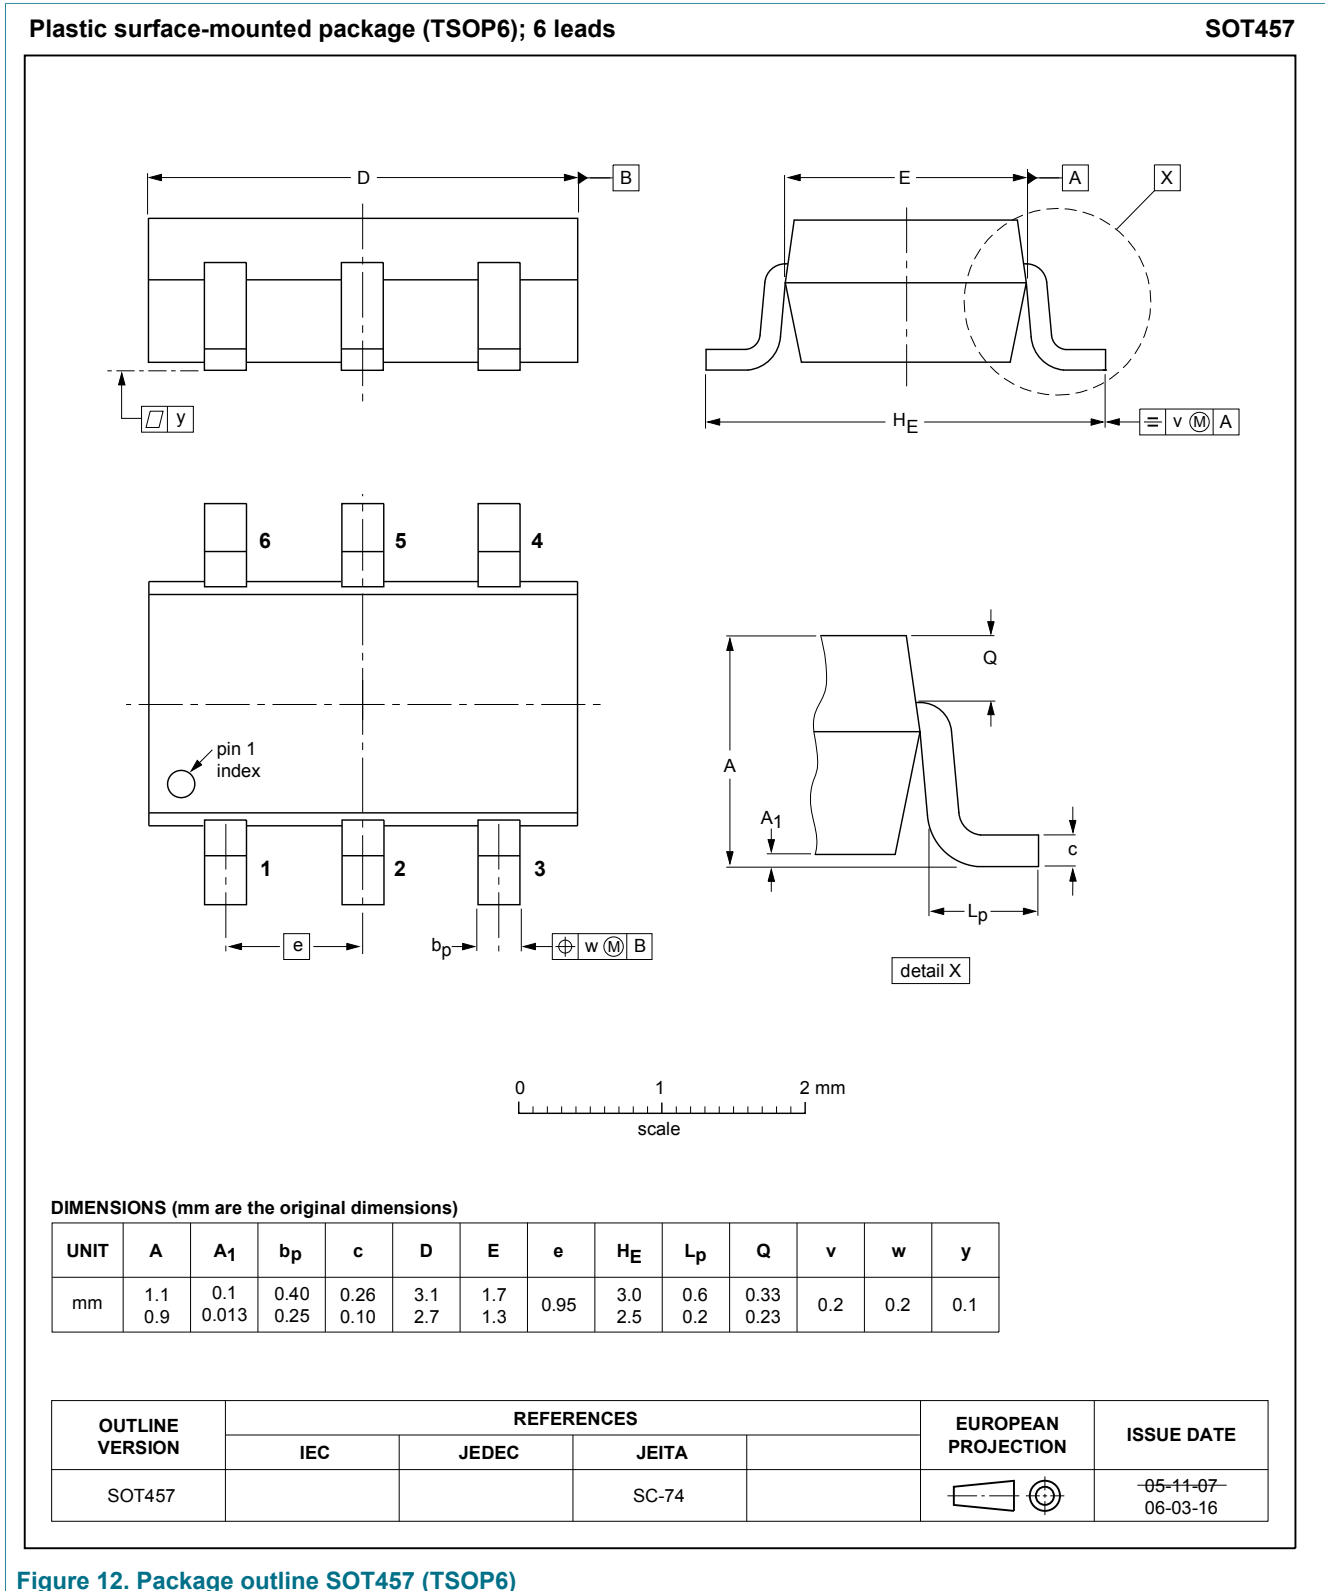

Figure 12. Package outline SOT457 (TSOP6)
| Fig. 6. | II(XV) as a function of temperature | 11 | Fig. 12. | Package outline SOT457 (TSOP6) | 15 |